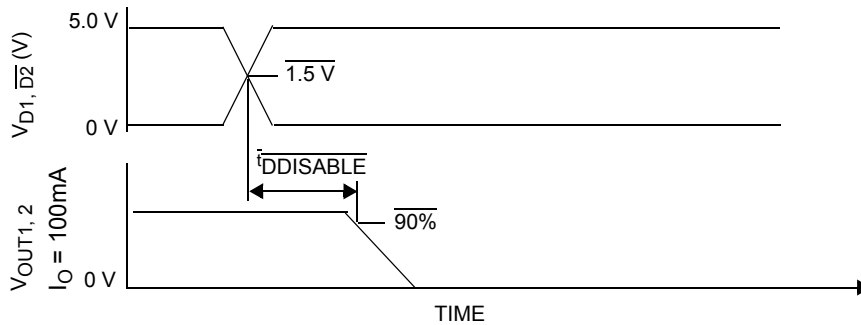

Figure 5. Disable Delay Time
- Disable Delay Time measurement is defined in Figure 5, page 10.